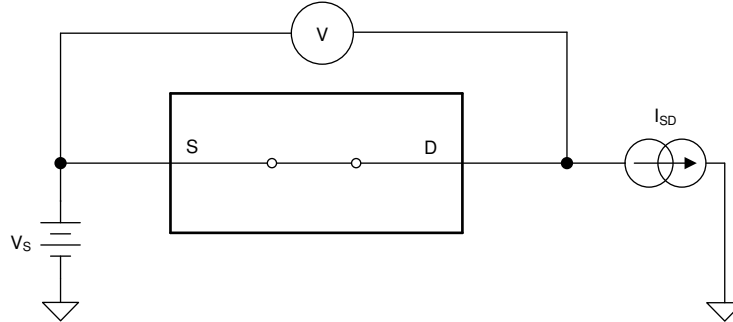

图 7-1. On-Resistance Measurement Setup
The on-resistance of a device is the ohmic resistance between the source (S) and drain (D) pins of the device. The on-resistance varies with input voltage and supply voltage. The symbol R_{ON} is used to denote on-resistance. The measurement setup used to measure R_{ON} is shown in 图 7-1. Voltage (V) and current (I_{SD}) are measured using this setup, and R_{ON} is computed with $R_{ON} = V / I_{SD}$: